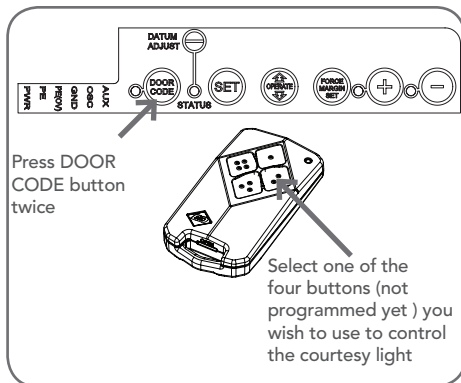

Fig. 8.2
- Press the DOOR CODE button twice. The DOOR CODE LED will illuminate and the courtesy light will turn on to indicate that the light code learning is active (**Fig. 8.2**).